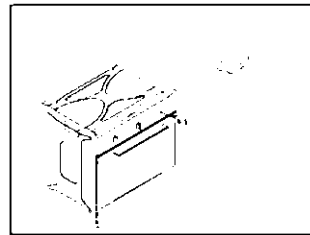

FIG. 5
- If there is a metal front panel, the adjustment can be done through the opening, which is on the left side of the knobs (fig 5).